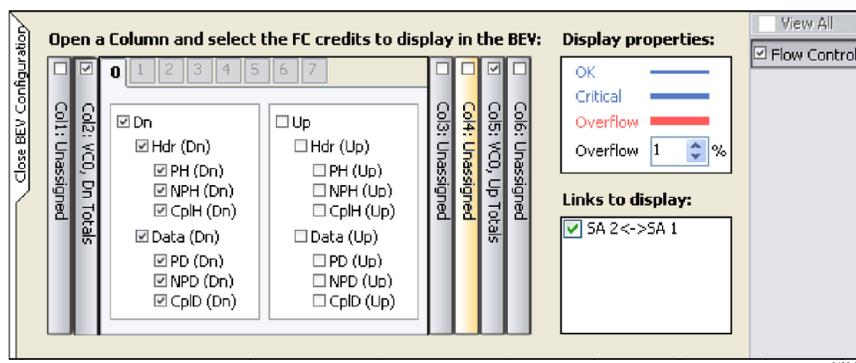

Figure 40: BEV Configuration panel with Flow Control selected
1. Click the Configure BEV tab at the top-right side of the BEV to open the BEV Configuration panel. The panel shows the options for the Flow Control visualization. (See Figure 40.)